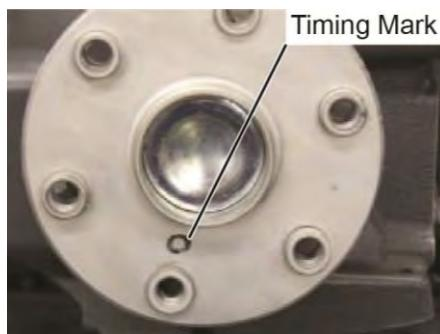

Figure 7
- J. Align the timing marks on the crankshaft flange (Figure 7) with the timing mark on the starter ring gear assembly (Figure 8).